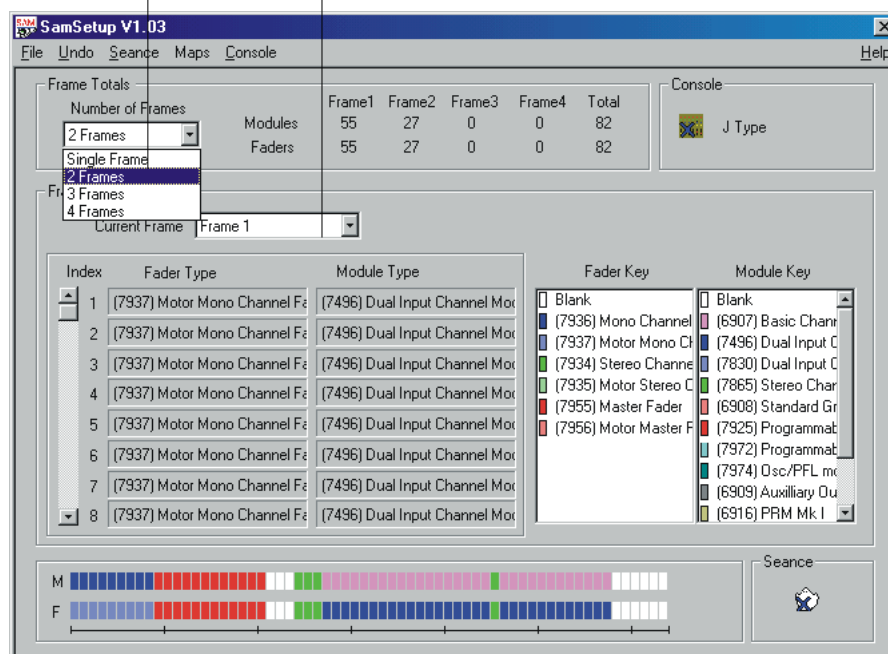

FIG 2-2. Selecting number of frames to configure.
- Select the appropriate number in the Number of frames menu selection in the section Frame totals, see fig 2-2.
Once the console type and number of frames have been selected, select the frame into which you want to add modules. If the frame you want to edit is not shown, click on the arrow to view the Current Frame menu (see fig 2-2). When you have placed modules in each frame, SAM can generate a picture of the console on the VDU screen (see fig 2-3). This picture will assist you in entering cue information and getting an overall view of console performance without you having to have access to the console itself.